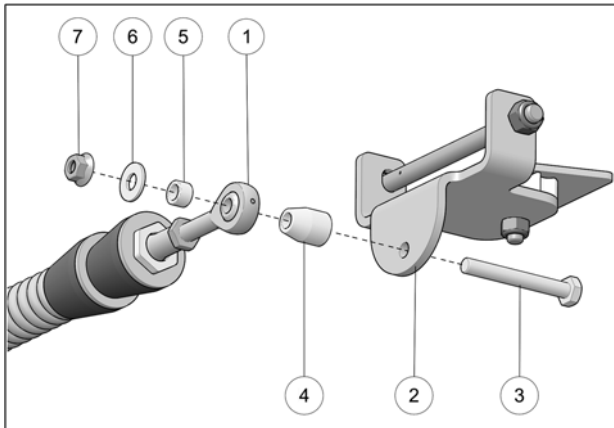

Fig. 8
- Attach stabilizing rod (1) to anchor bracket (2), using bolt (3), long spacer bushing (4), short spacer bushing (5), flat washer (6) and nut (7). Torque to 70 N•m [52 lb•ft]. See Fig. 8